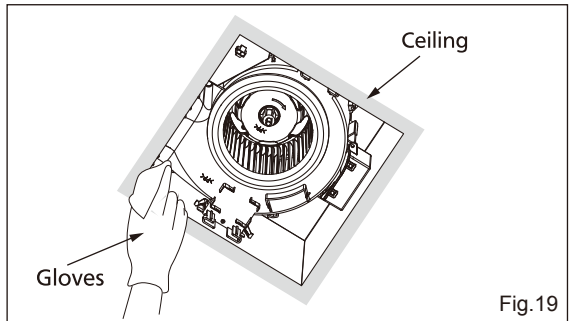

Fig.19
5. Using a cloth dampened with kitchen detergent, remove any dirt from fan body then wipe dry with clean cloth. (Fig.19)